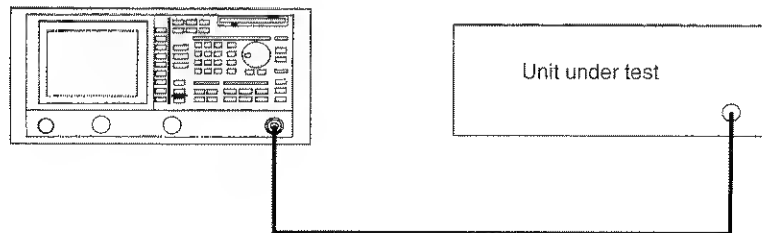

Figure 2-62 Setup Measuring Adjacent Channel Leakage Power
1. Connect the unit under test as shown in Figure 2-62.